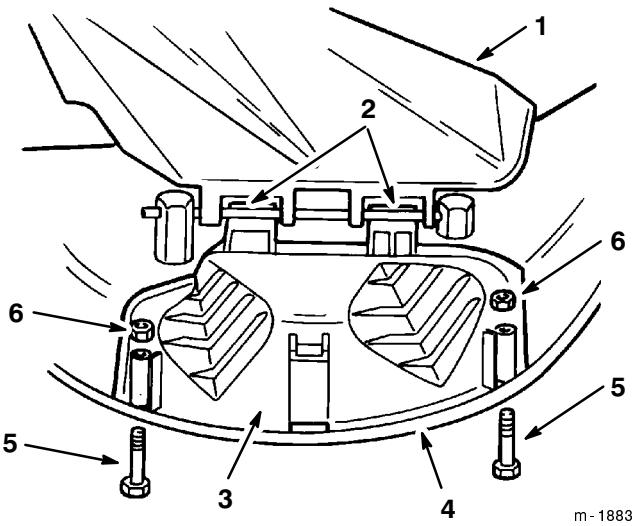

Figure 13
2. Lift the grass deflector and slide the tabs on top of the discharge cover under the grass deflector retaining rod. Rotate the discharge cover down over the opening and onto the lower lip of the mower (Fig. 13).
3. Secure the discharge cover to the lower lip of the mower with bolts and nuts (Fig. 13).